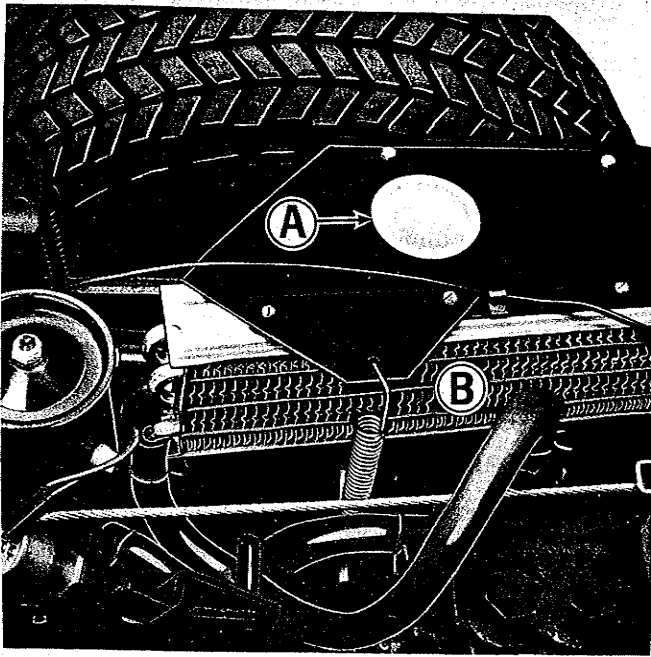

Figure 17. Transmission oil cooler, located under seat deck.
**CLEAN TRANSMISSION OIL COOLER:** See figure 17. Use a screw driver to remove plug (A). Inspect the oil cooler (B) and if necessary remove any dirt, chaff or oil, which may decrease the efficiency of the cooler. Dirt and chaff collected on the outside of the cooler can usually be brushed off after the engine has been stopped. Be careful not to bend the cooler fins. If grass, chaff, or dirt collect between the fins, it may be necessary to use air or water pressure to blow it out. A non-flammable solvent should be used to remove any oil which may collect on the outside of the cooler. In warm or dusty operating conditions, or when mowing dry dry grass, the cooler may need to be cleaned more often to prevent foreign material from restricting air flow through it.